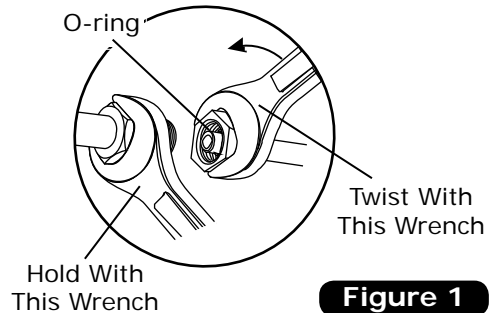

Figure 1
1. Place the drier clamps around the drier as shown in Figure 1, below.
2. Secure the drier to the drier bracket using (2) #10 x 1/2" sheet metal screws. **NOTE: Refrigerant flow through the drier is IN from the condenser, OUT to the evaporator.**